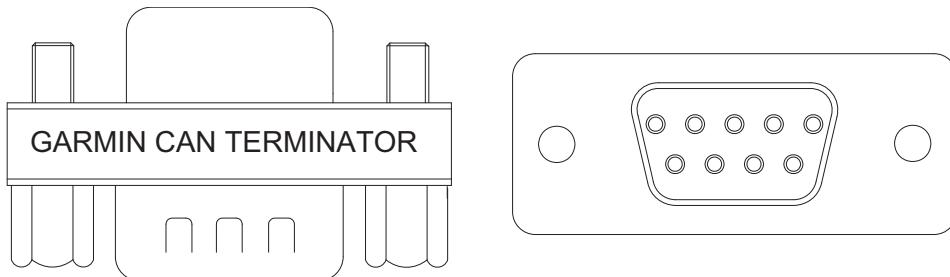
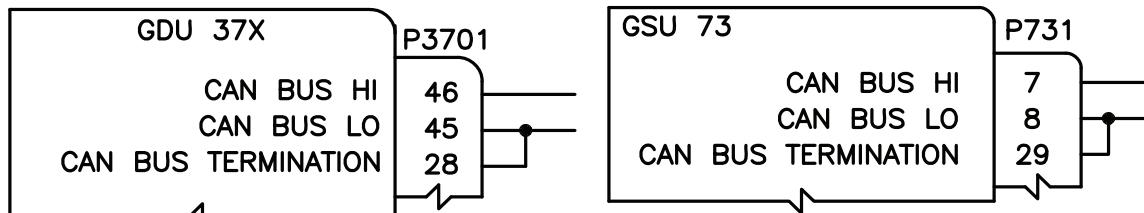

Figure 2-4. CAN Bus Termination (011-02887-00) for GAD 29, GEA 24, and GSU 25
Figure 2-5. CAN Bus Termination for GDU 37X and GSU 73
LRUs that can connect to the CAN Bus are: GAD 29, GDU 37X, GEA 24, GSA 28, GSU 25, GSU 73. The GEA 24 and GSU 25 installation kits provide a DB-9 CAN Bus terminator that contains a $120\ \Omega$ resistor connected between pin 1 and 2 (Figure 2-4). The GDU 37X and GSU 73 units are terminated by connecting the CAN Bus Lo pin to the CAN Bus Termination pin (Figure 2-5). The GDU 37X, GSU 73, and GSA 28 units all contain a $120\ \Omega$ resistor inside the unit that provides the termination when connected externally (as shown in Figure 2-5, Figure 2-6). The GSA 28 servos are terminated by connecting pin 3 to pin 4 (Figure 2-6).
3. If a GAD 29, GEA 24, and/or GSU 25 unit (that was used as a CAN bus termination) is removed, the CAN bus will remain terminated as long as the CAN bus terminator (Figure 2-4) is left connected.
The 120 Ω termination resistors described in the preceding paragraphs are "built-in" to the termination methods shown in the following figures. Do not install a separate "discrete" 120 Ω resistor to terminate the CAN bus in addition to the termination methods shown in Figure 2-4, Figure 2-5, and Figure 2-6.